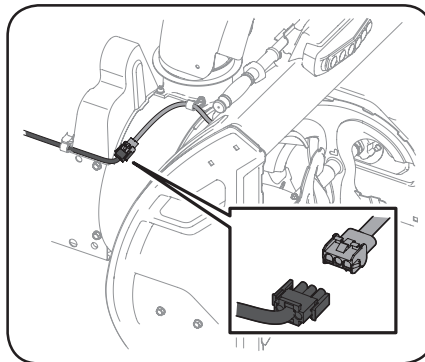

Figure 4-15
**NOTE:** On models equipped with the LED headlight on top of the auger housing, make sure to unplug the wire harness before removing the belt cover as shown in Figure 4-15.